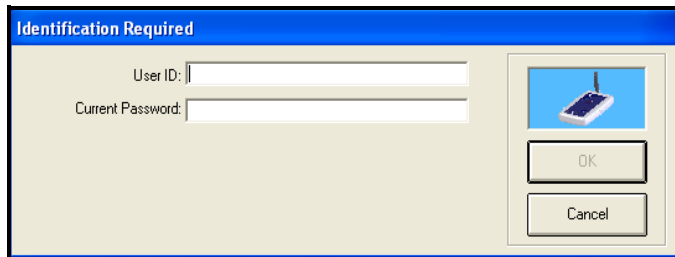

Figure 2-3: Identification Required Box
5. The Identification Required dialog box (shown in Figure 2-3 below) appears.